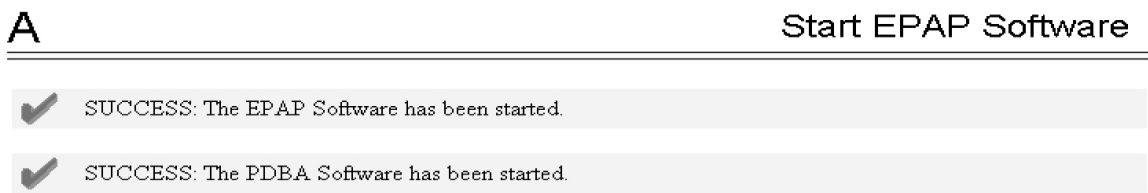

Figure 62: Start Software Completion Screen
8. Click the **Start EPAP Software** button to start the software. The screen shown in Figure 62: Start Software Completion Screen confirms that the software has started (the PDBA item appears only if performing this procedure on Side A):